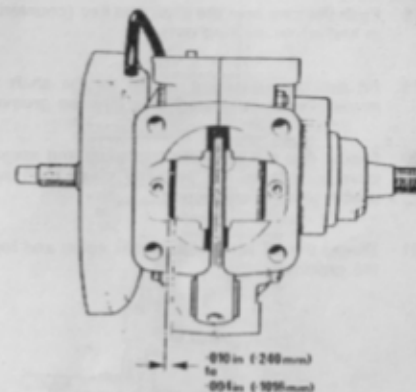

Fig. 25 Showing crankshaft end float checking point at crankcase mouth.
- 6 Check that crankshaft end float is correct. The recommended figure is .010 in. – .004 in. (.240/1016 mm) checked by end movement on the crankshaft. The point at which end float figure is checked is shown in Fig. 25. If the end float figure is incorrect, remove the backplate and add or subtract shims until the correct figure is achieved. After removal of shims the crankshaft should be driven towards the flywheel to re-seat the main bearing race before re-checking. At each stage the magneto backplate must be refitted and secured for checking.